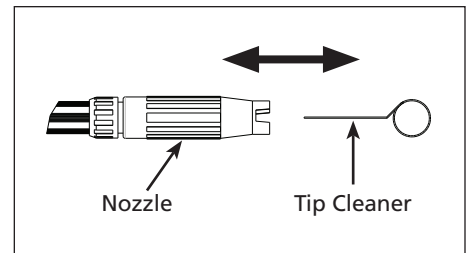

Figure 19
- Using the included tip cleaner, or an un-folded paper clip, insert wire into the nozzle hole and move back and forth until debris is dislodged (refer to Figure 19).